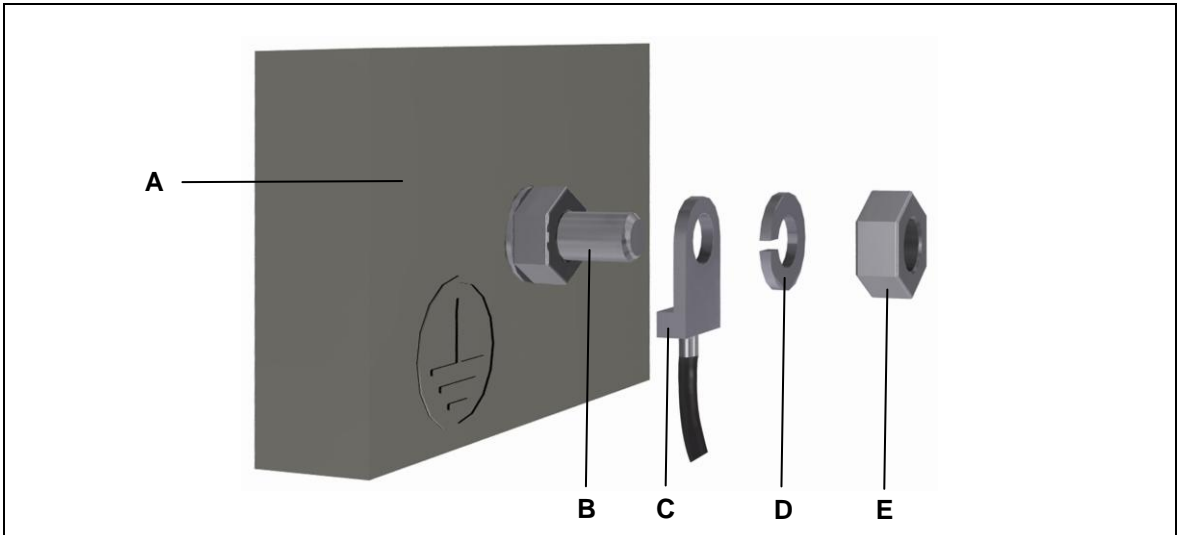

Figure 10 Installing the ground bolt
- 1 Unscrew the nut (E) and pull the washer (D) off of the grounding bolt (B).
- 2 Put the grounding lug (C) onto the grounding bolt (B) as show in Figure 10.
- 3 Put the washer (D) back on.
- 4 Tighten the nut (E) back onto the grounding bolt. It should not be possible to loosen the nut with your hand.